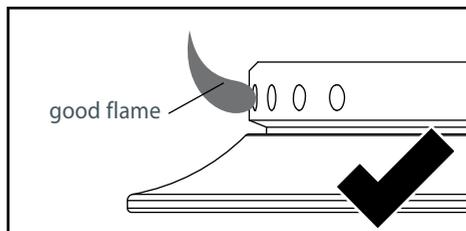

Fig. 5
- Move the venturi back until the 'yellow tip' just disappears (see Fig. 5)—this is the correct venturi setting. Tighten the securing screw.